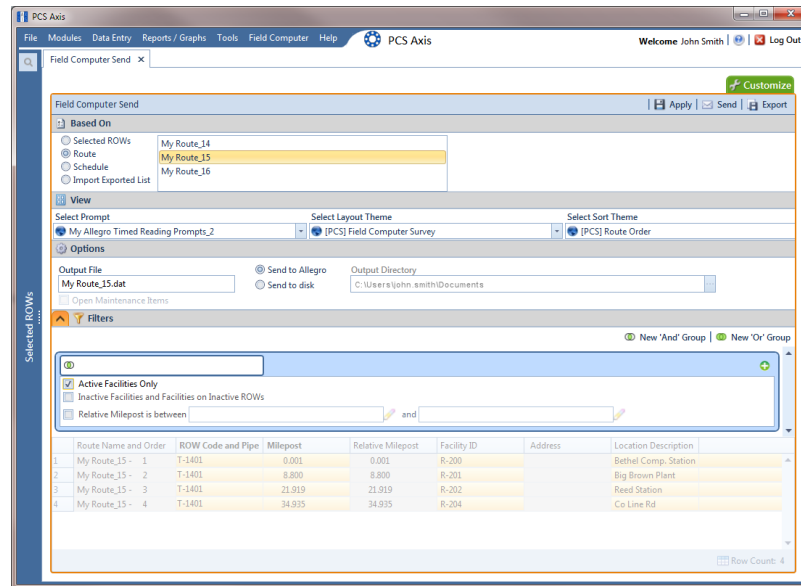

Figure 8-28. Filters
- 23 Click the  **Filters** button to open the *Filters* panel (Figure 8-28).